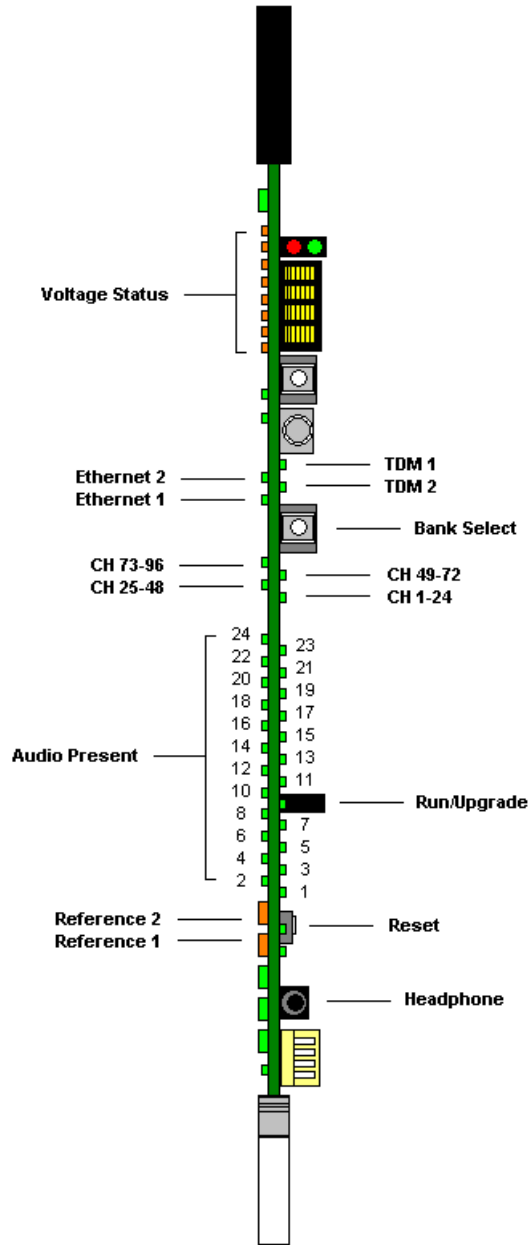

Figure 2-6: EMR-IP96(48)-AESU(B) Front Card Edge
The EMR-IP96(48)-AESU(B) front card edge has some key controls and indicators that can help in the installation and debugging processes. Figure 2-6 and Table 2-3 show the card edge and describe the expected behavior of each component. If the status indicators do not behave as described it can be a sign of installation or configuration issues.